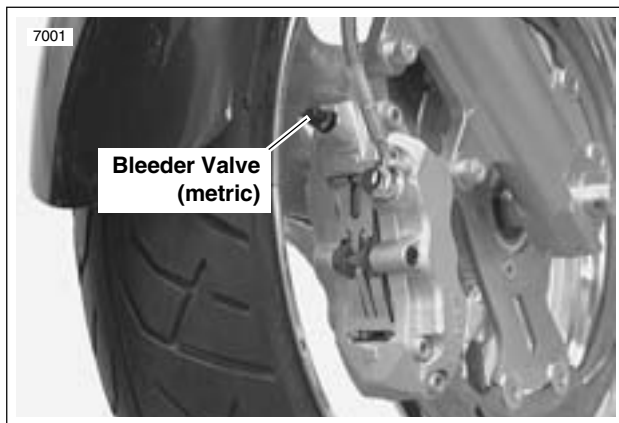

Figure 1-9. Front Brake Bleeder Valve (Typical)
- a. Front brake bleeder valve-see Figure 1-9.